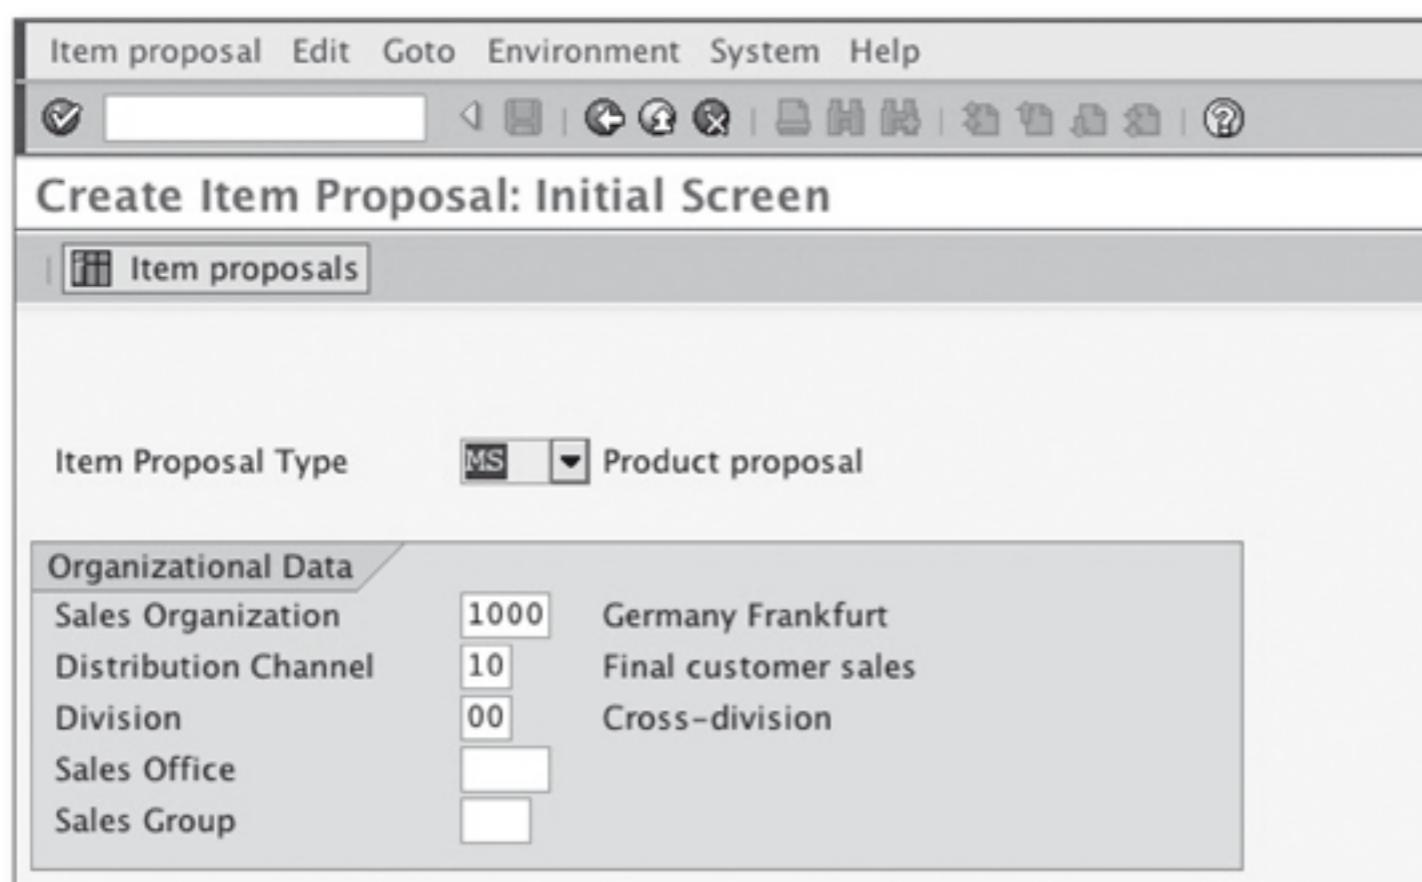

Figure 2.7 Create Item Proposal Initial Screen
2. On the initial screen, enter "Proposal Type – MS" and your Sales Organization data information, as you can see in see Figure 2.7.